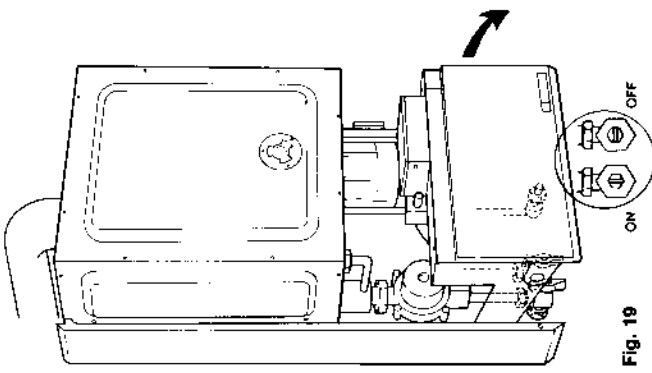

Fig. 19
- 5.7.2** To gain access to the electrical terminals hinge down the spring loaded control fascia. (ref to fig 19) until it rests in an approximately horizontal position.